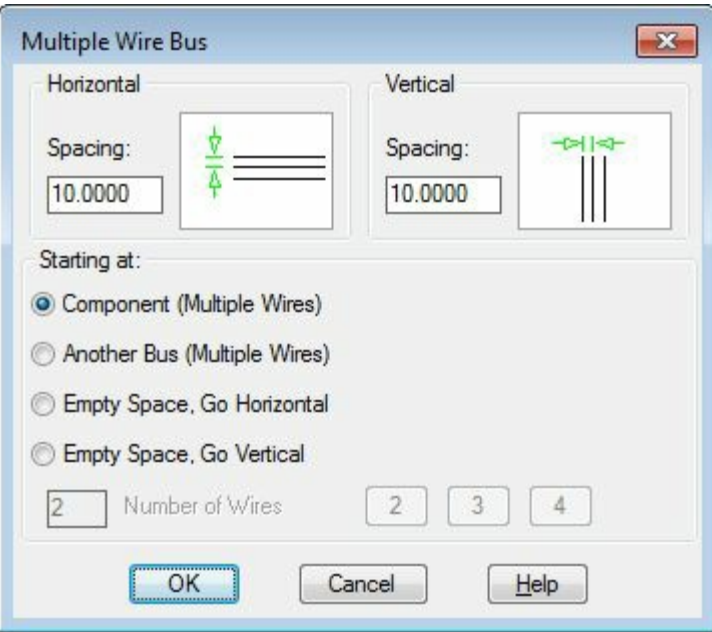

Figure-54. Multiple Wire Bus dialog box with Component radio button selected
- Click on the **Multiple Bus** tool from the **Insert Wires/Wire Numbers** panel in the **Ribbon**. The Multiple Wire Bus dialog box will be displayed; refer to Figure-54.